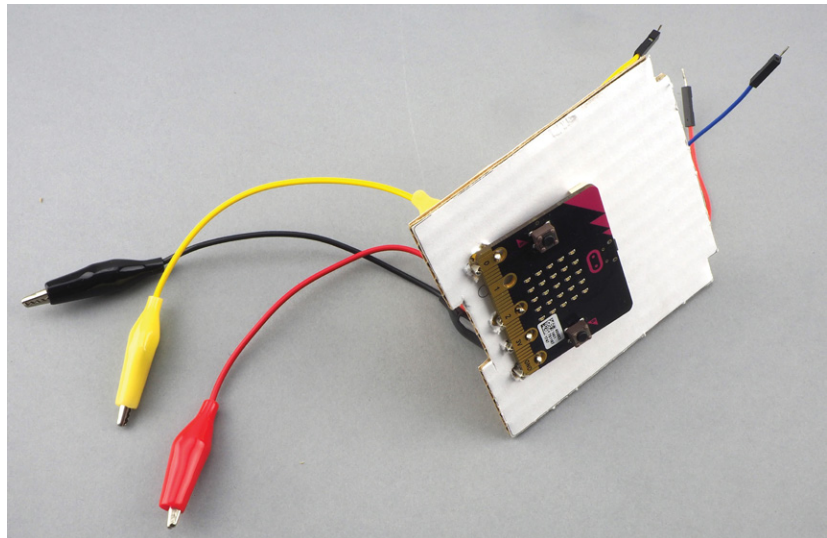

Figure 6-13: Attaching the micro:bit to the front of the cardboard
10. To connect the micro:bit to the servomotor, you'll need to attach three alligator clips with male jumper cables on one end. Clip a yellow alligator clip with a male jumper cables to pin 2. Then, pull back the insulating sheath on the red alligator clip already attached to the 3V, expose some of the metal, and clip the red alligator clip with male jumper cable to the red clip. Do the same with the black GND cable, pulling back the insulating sheath of GND's black alligator clip and attaching the black alligator to male jumper cable (Figure 6-13).